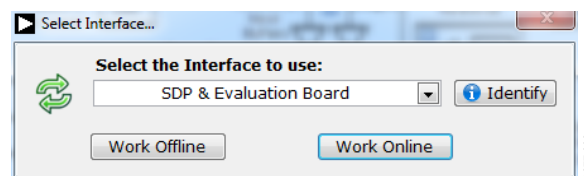

Figure 6. Select Interface Dialog Box
2. If the EVAL-AD7172-2SDZ is not connected to the USB port via the EVAL-SDP-CB1Z when the software is launched, the **Select Interface...** dialog box appears (see Figure 6).
3. Connect the evaluation board to the USB port of the PC, wait a few seconds, and click the green double arrows, shown in Figure 6, to rescan the USB ports. Once connected, click **Work Online** to proceed (see Figure 6).